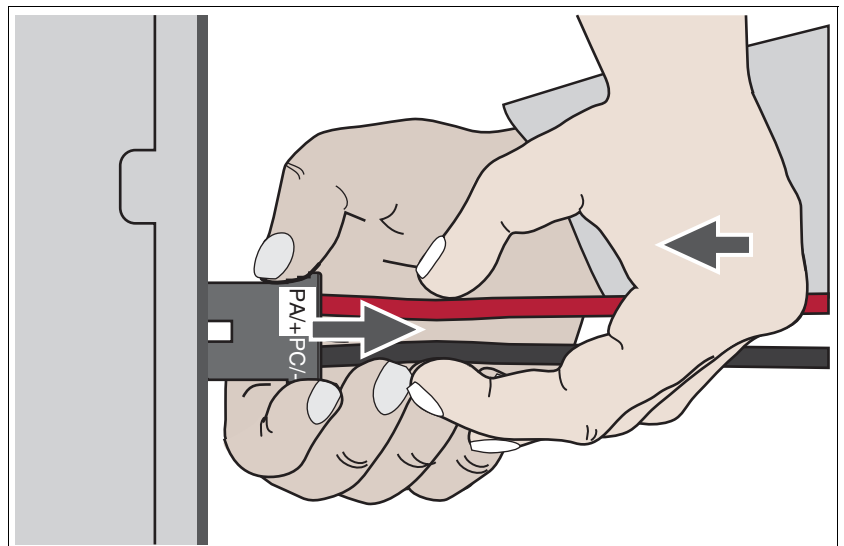

Figure 5.4 Unlocking the DC bus connector, step 2: Push cables towards connector, at the same time remove the connector with the other hand.
- While pushing the wires towards the connector, pull the connector at the connector housing with the other hand. The connector is unlocked and you can remove the DC bus connection cable (see). The connector is unlocked and you can remove the DC bus connection cable (see Figure 5.4).